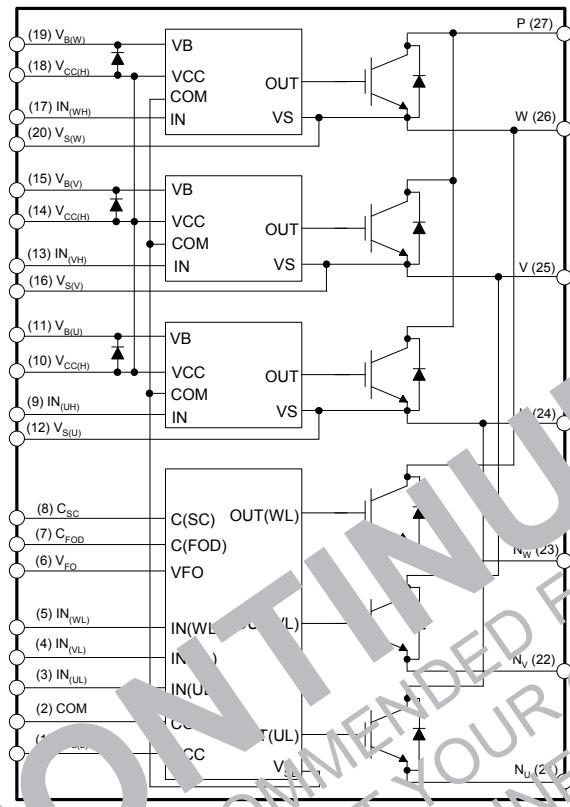

Figure 3 Internal Block Diagram
- 600 V - 15 A IGBT inverter for three-phase DC / AC power conversion (please refer to Figure 3)